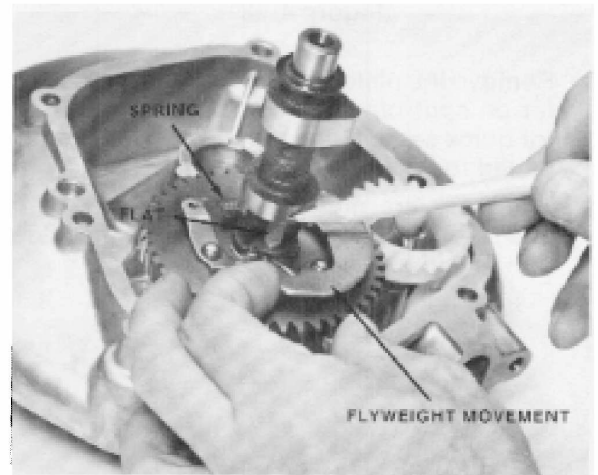

Figure 4-30
2. When the engine speed increases, the flyweight will move in the direction of the arrow in Fig. 4-30. This will cause the lobe to rotate exposing its flat edge to the exhaust cam. This will allow the exhaust valve to fully close at operating speed. See Fig. 4-30.
3. The flyweight spring is the only replaceable part. Refer to Fig. 4-30.